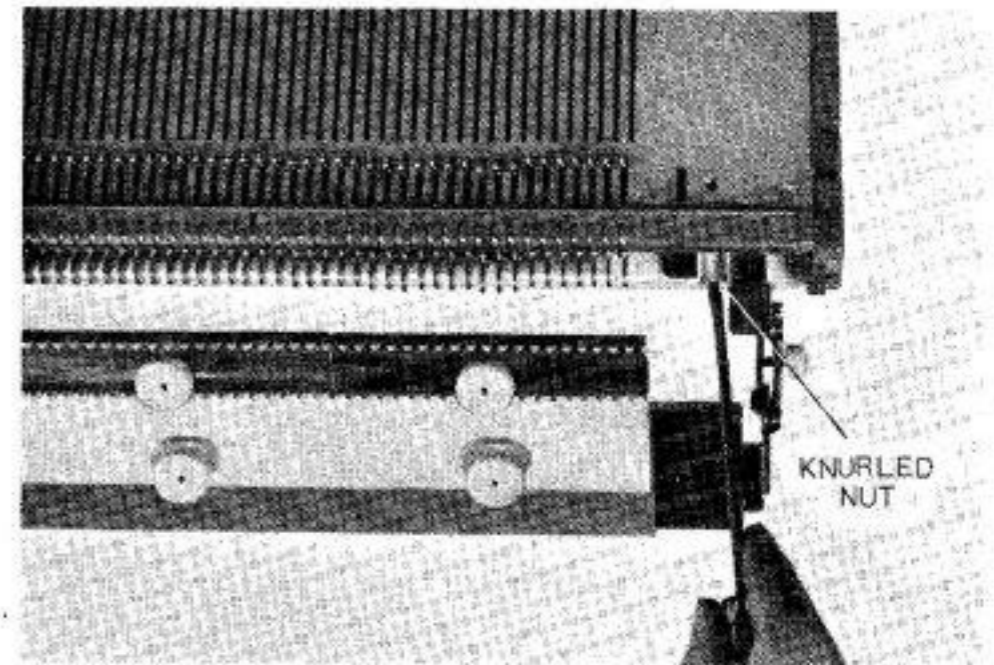

Fig. 4
- (3) Remove the two knurled nuts located at each end of the front of the Knitting Machine and place the Mounting Joints over the screws. Replace the knurled nuts and tighten them firmly with a screwdriver. (See Fig. 4)